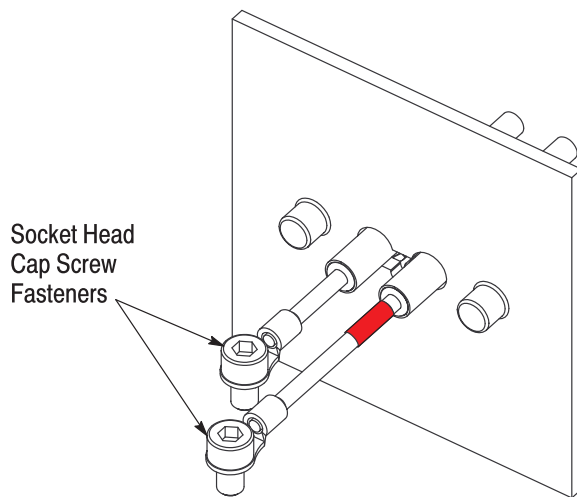

Figure 9
10. The APT assembly is now ready to be connected to the device side electronics, by means of the two cap screw fasteners through the two ring terminals as shown in Figure 9. As noted previously, the specification of the cap screws is related to the ring terminals and associated mounting requirements within the device and must be provided by the customer.